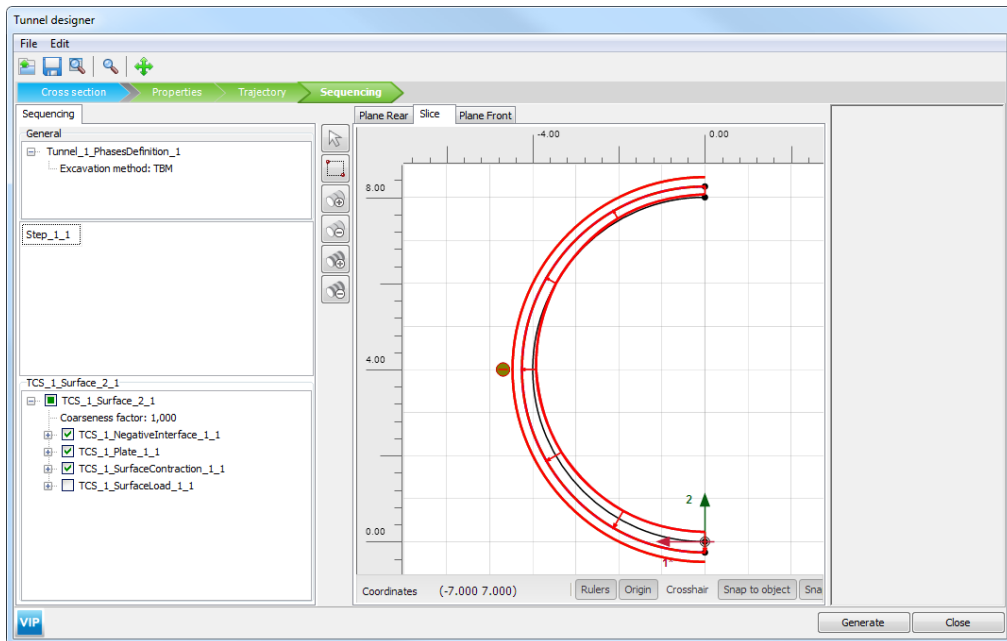

Figure 6.10 Slice tabsheet in the Tunnel designer for Step_1_1
-  **Step_1_1, face excavation:** Select the *Slice* tabsheet above the displayed tunnel cross section and select the volumes inside the tunnel. In the *Selection explorer*, deactivate the soil and set the *WaterConditions* to *Dry*. In the *Slice* tabsheet again, select the outer surface. In the *Selection explorer*, activate the negative interface, the plate and the surface contraction (Figure 6.10).